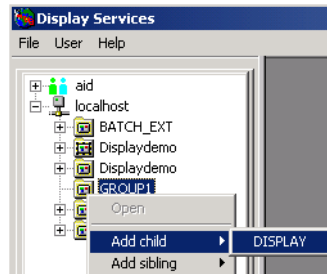

Figure 11. Adding a Display to a Group
3. Add a new display to the group. Select GROUP1 in the Object Browser. Then right click on GROUP1, and choose **Add child > DISPLAY** from the context menu, Figure 11.